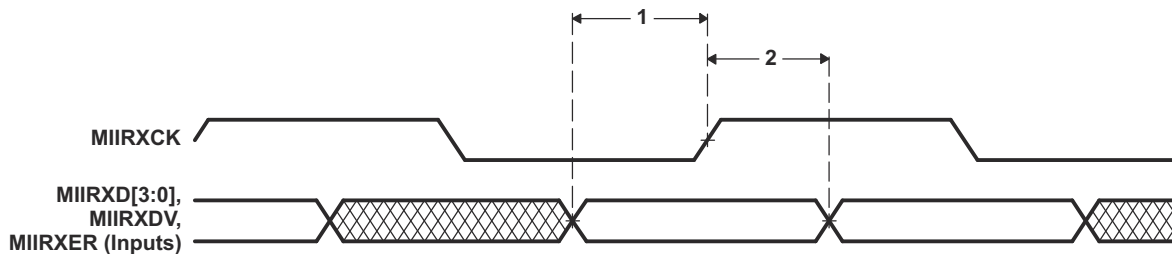

图 7-39. 100/10Mb/s MII Receive Timing
7.11.6.3.7 Timing Requirements for EMAC MII Receive (see 图 7-39)